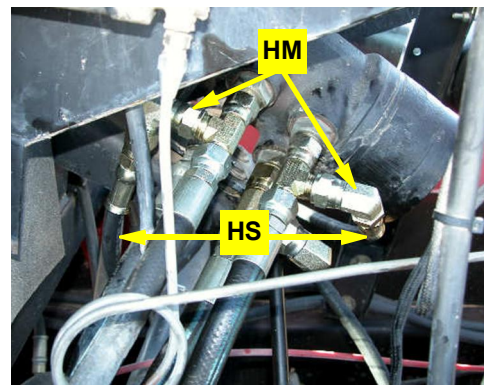

Figure 9a: Steering output hoses connected to run tees using elbow adapters
- a. Install the two elbow adapters **HM** on the branches of the run tee fittings **HL** installed at step 8b. Connect the larger JIC straight connectors of the steering output hoses **HS** to the elbow adapters (Figure 9a).